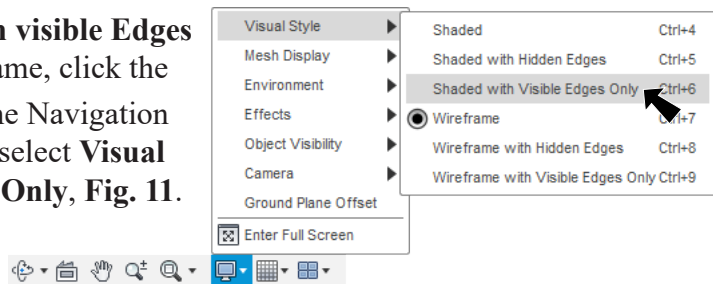

Fig. 11
Step 18. Switch Visible Style to **Shaded with visible Edges Only** (Ctrl-6). To switch to Wireframe, click the Display Settings  pull-down in the Navigation Bar at the bottom of the canvas and select **Visual Style > Shaded with visible Edges Only**, **Fig. 11**.